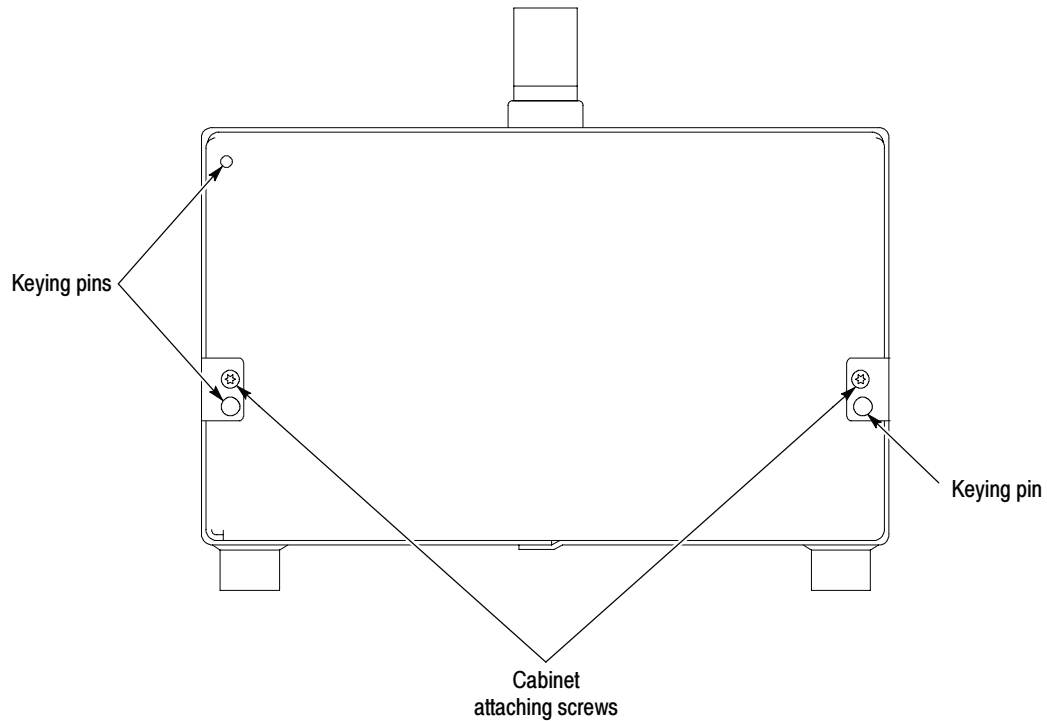

Figure 1: Portable cabinet attaching screws
2. Remove the two cabinet attaching screws, shown in Figure 1.